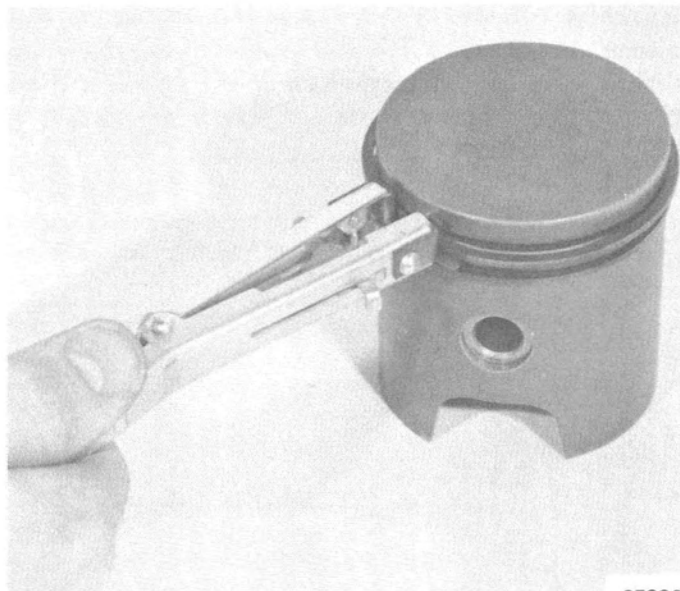

Figure 9. Piston Ring Replacement
4. Remove piston rings with Tool C-91-24697. (Figure 9)